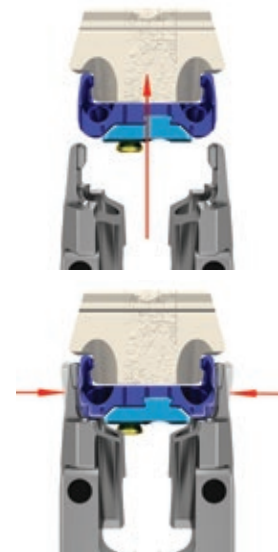

Fig. 24 ▲
Assemble the ATO Inserter Guide to the Modular Impaction Cap Handle. The ATO Inserter Guide grasps the outside of the plate by engaging the plate pockets. With the gold locking screw oriented on the left and guide circular markings facing upward, attach the ATO Inserter Guide around the outside of the plate. The ATO Inserter Guide snaps into place when the tabs are fully seated in the plate pockets. (Fig. 24, top)
**NOTE:** The circular markings on the ATO Inserter Guide should face upward when assembling the plate to the inserter. These markings are for orientation only, indicating the direction the two lateral screws will point in situ. (Fig. 24, bottom)